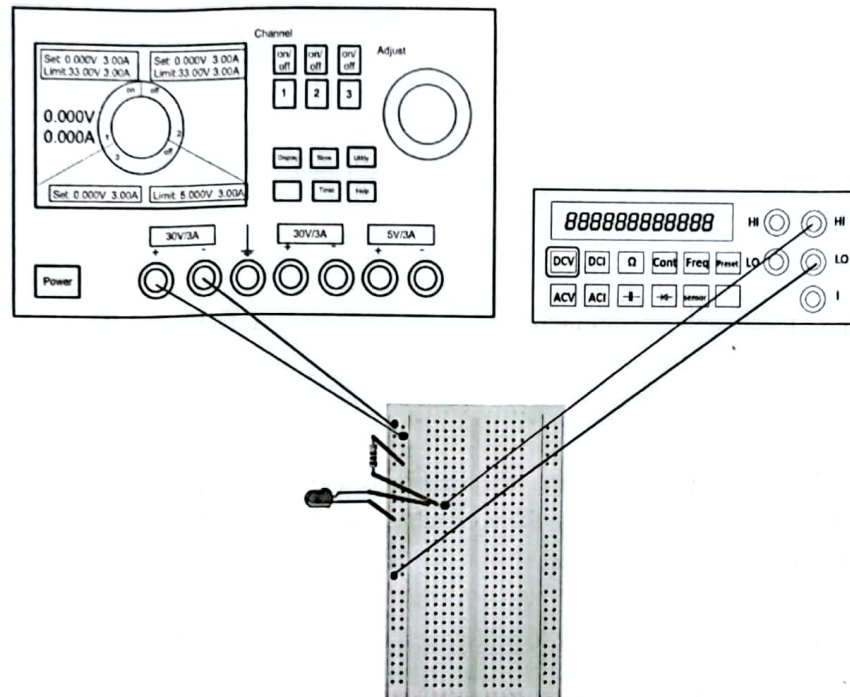

Figure 9: How to measure V_D .
- Connect the multimeter to your LED circuit, the connect way of multimeter is the same as continuity test. And for the circuit end, the black cable should connect to the negative end of DC power, the red cable should connect to the positive end of LED(as show in Figure 9).